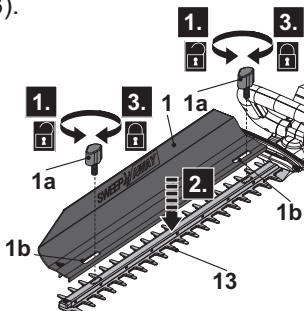

Fig. 2
1. Remove the locking knobs (1a) anticlockwise from the nuts by hand and keep them handy (Fig. 2, step 1).
3. Align the slots (1b) of the sweeper (1) with the nuts of the cutting device (blade) (13) and keep in place (Fig. 2, step 2).
4. Secure the connections with the locking knobs (1a) clockwise by hand (Fig. 2, step 3).